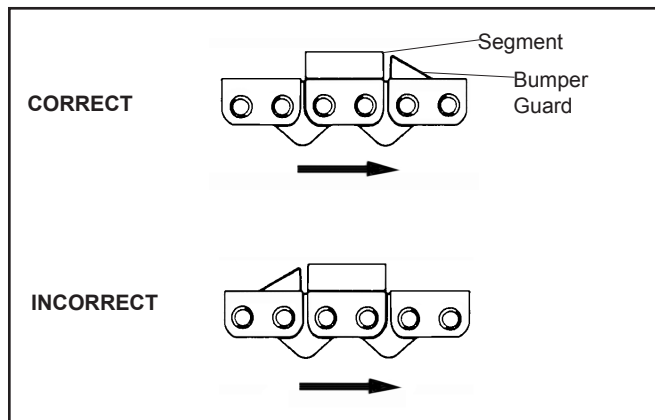

Figure 2. Chain Direction
6. Check that the chain is properly installed. The chain is designed to only operate in one direction. Make sure the chain is installed so the bumper guard precedes each diamond segment. See Figure 2.